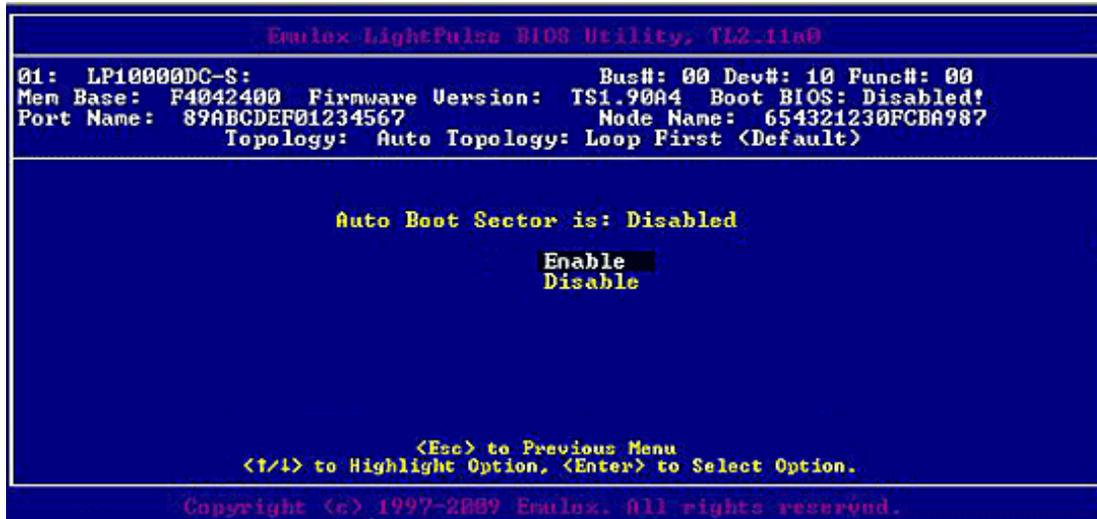

Figure 18: Enable or Disable Auto Sector Format Select screen
2. Select **Enable or Disable Auto Boot Sector**. Figure 18 is displayed.